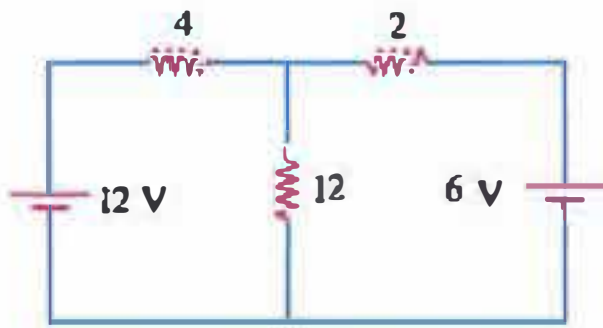

Fig. 4.26
3. Make use of Thevenin's theorem to find current in the 12 Ω resistor of Fig. 4.26. [0.6 A]
6. What is the Norton equivalent for the circuit shown in Fig. 4.26? Use it to find current flowing through 12 Ω resistor. [$I_N = 6 \text{ mA}$, $R_N = 4/3 \Omega$; 0.6 A]